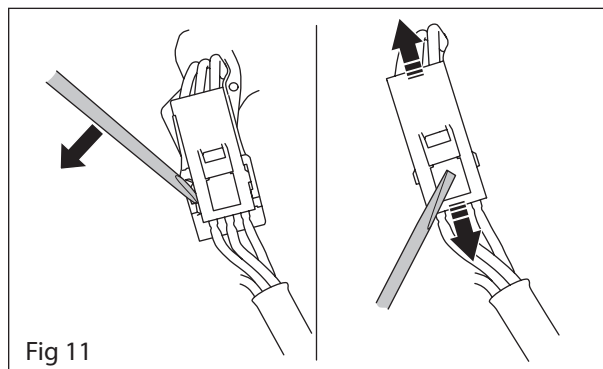

Fig 11
10. Snap off the connector from the Autotune unit using a small flat screwdriver. Separate the connector by pressing down the catch with screwdriver and pulling the unit apart. See figure 11.